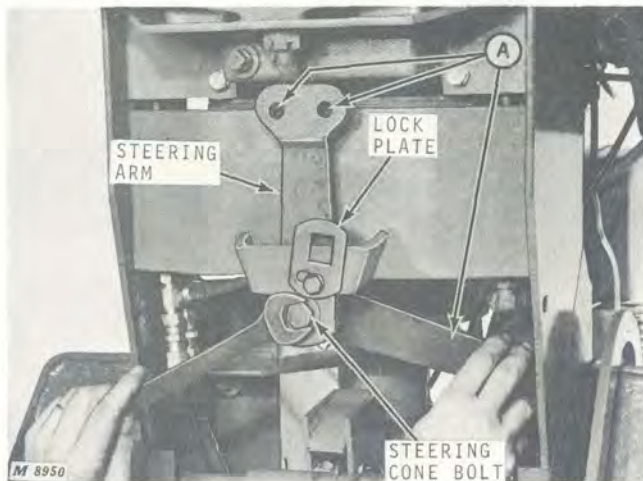

Fig. 20-Adjusting Steering Cone
2. Disconnect ball joints at points "A," Figure 20.